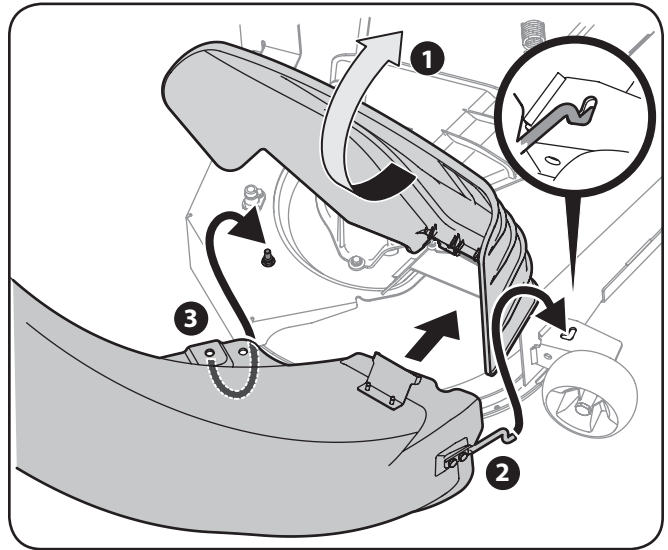

Figure 4-19
- Raise the chute deflector (1 in Figure 4-19) on the deck and hold it while you position the discharge chute over the chute opening.
- Insert the end of the discharge chute elbow (2) into the hole provided in the deck wheel mount as shown in the inset of Figure 4-19.
- Pivot the discharge chute rearward until the hole in the discharge chute elbow aligns with the pin on the deck. Move the discharge elbow down onto that pin as shown in 3 of Figure 4-19.